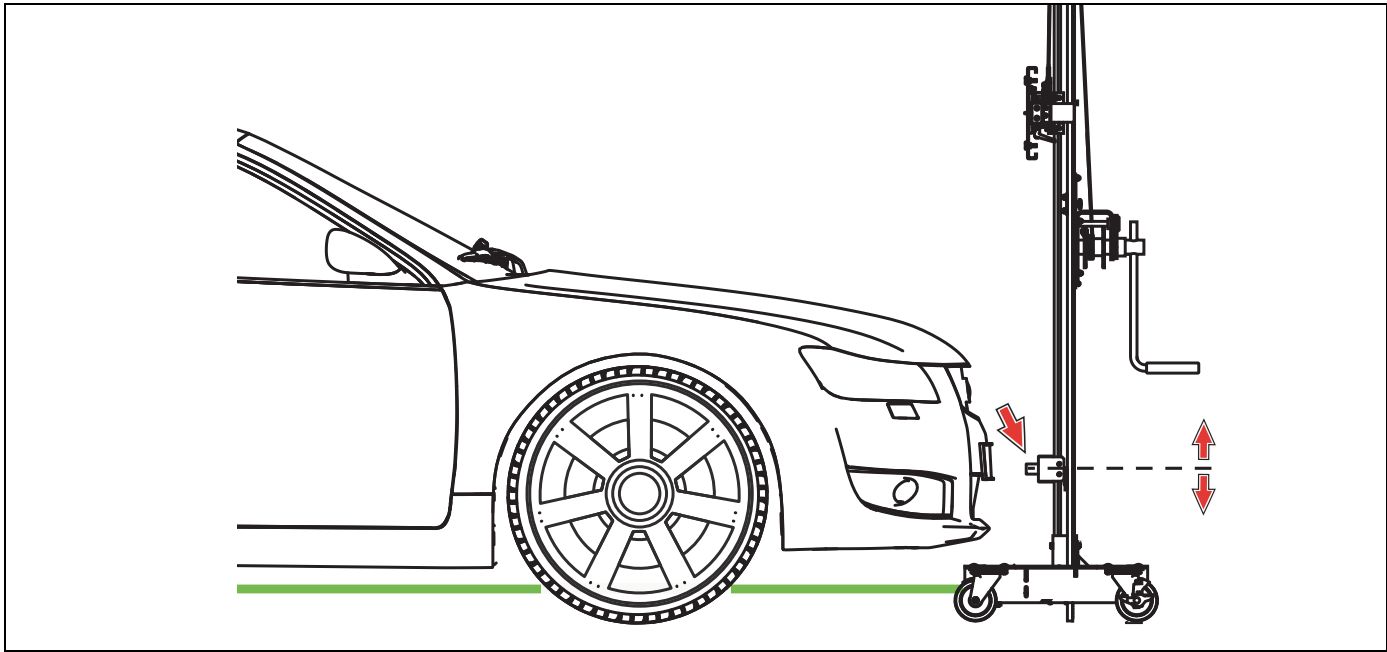

Figure 4-24
5. Move the TS100 stand to the front and center of the vehicle, so that the TS20 zero stop is almost touching the front of the vehicle (Figure 4-24).
6. Adjust the TS20 zero stop to align with the forward most surface of the vehicle (Figure 4-24), and lock in position.
6. Loosen the TS20 zero stop thumbscrew and adjust the TS20 vertically to align with the forward most surface of the vehicle (Figure 4-24), and lock in position.